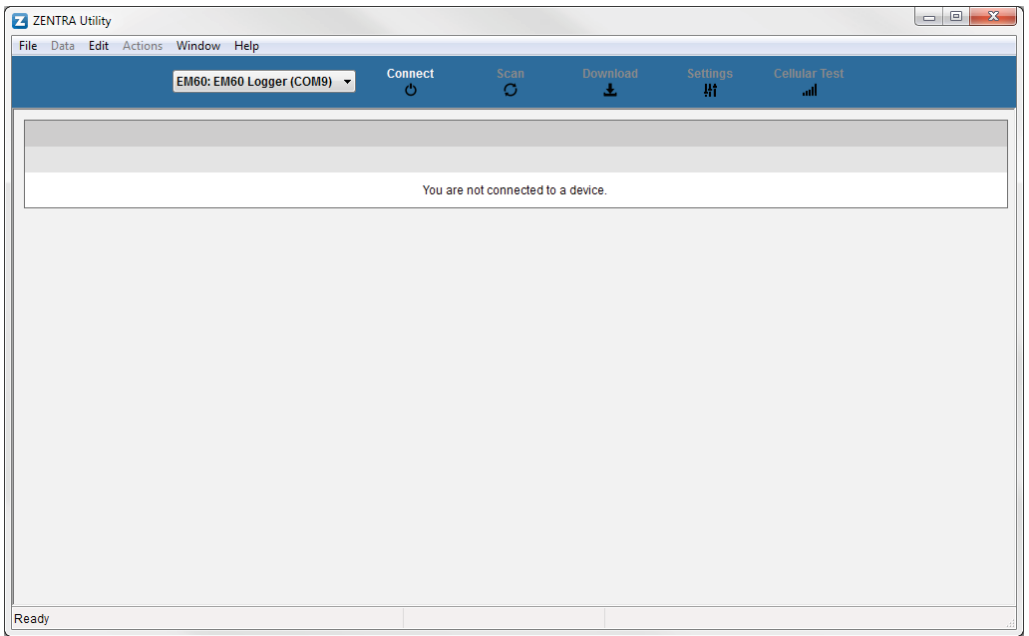

Figure 1 ZENTRA Utility initial screen
1. Open the ZENTRA Utility application (Figure 1).